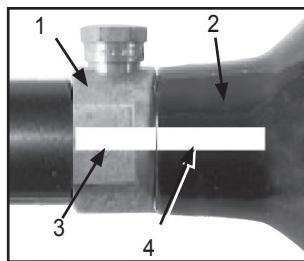

Figure 9: Properly marked Valve and Cylinder
The brass or nickel plated cylinder valve (Figure 9, #1) is intended to be permanently attached to the air or CO₂ cylinder (2). An air or CO₂ cylinder can fly off with enough force to cause serious injury or death if the cylinder (2) unscrews from a cylinder valve (1).
Refer to Figure 9. There have been reported incidents caused by players unknowingly unscrewing the cylinder (2) from the cylinder valve (1). This occurs when the player thinks the entire valve-cylinder assembly is being unscrewed from the air/CO₂ adapter of the paintball marker, when in fact he or she is unscrewing the cylinder from the cylinder valve.
4. Watch the marks on the cylinder and cylinder valve (Figure 9) as you turn the cylinder approximately $\frac{3}{4}$ turn counterclockwise. This allows the air/CO2 valve pin to close so that no air/CO2 will enter the marker.